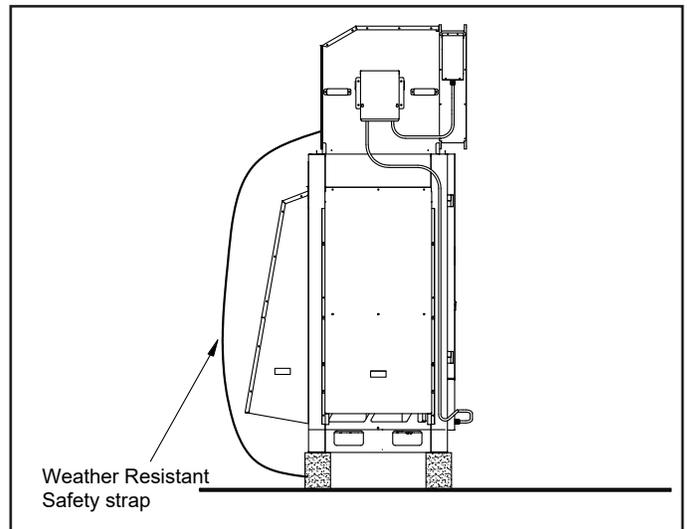

Figure 6. Secure Unit with Safety Strap (Back)
- For all roof top and other high wind installations, weather resistant safety straps must be securely fastened between the discharge air hood and the equipment support system. Straps should not be installed where service access is impeded or restricted. Straps should be a minimum 3/16" vinyl coated cable. See Figures 6 and 7.